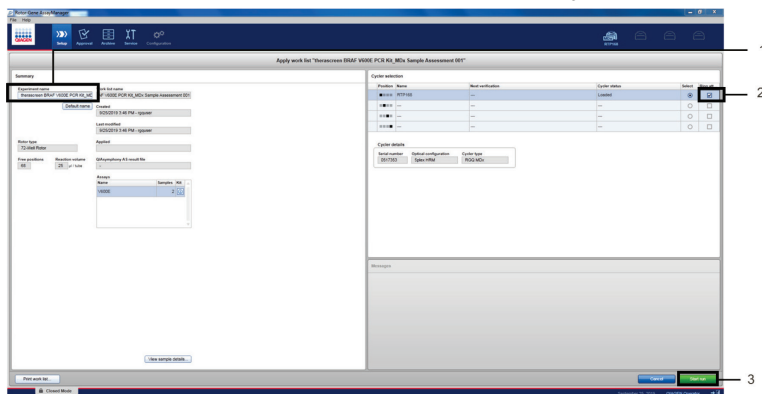

Figure 10. “Apply work list” window. 1 = “Experiment name” section. 2 = “Ring attached” check box. 3 = “Start run”.
10. Enter an experiment name in the “Experiment name” field. Ensure that the “Ring attached” check box is checked and click “Start run” (Figure 10).